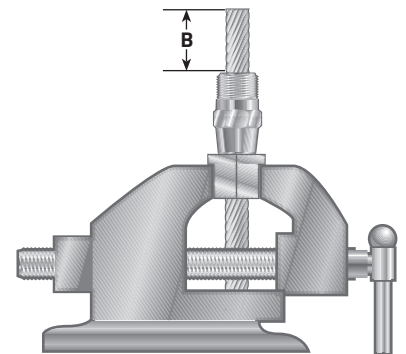

Figure 1
**STEP 1: Slide the sleeve over the rope, secure the rope in the assembly blocks and tighten the vise.** (Figure 1) If the Esmet assembly kit is not available, assembly blocks with a hole 1/32" less than the diameter of the rope can be made. If the rope has seizing, it may be easier to install the sleeve after the seizing has been removed. Before tightening the vise, be sure enough rope extends beyond the sleeve. (see dimensions in Figure 1).